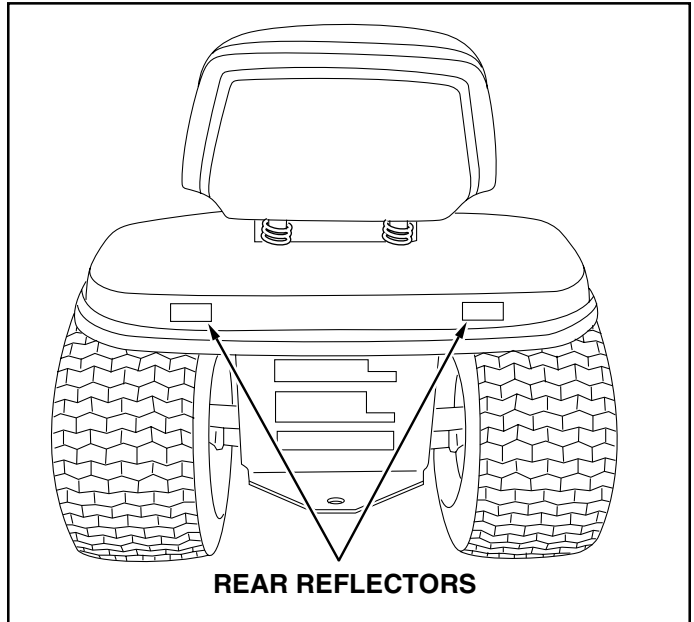

FIGURE 36
- If your tractor is not equipped with rear reflectors, assemble the supplied rear reflectors to the rear fender. Place the reflectors as close to the bottom of the fender and as far apart as the shape of the fender will allow. See figure 36.